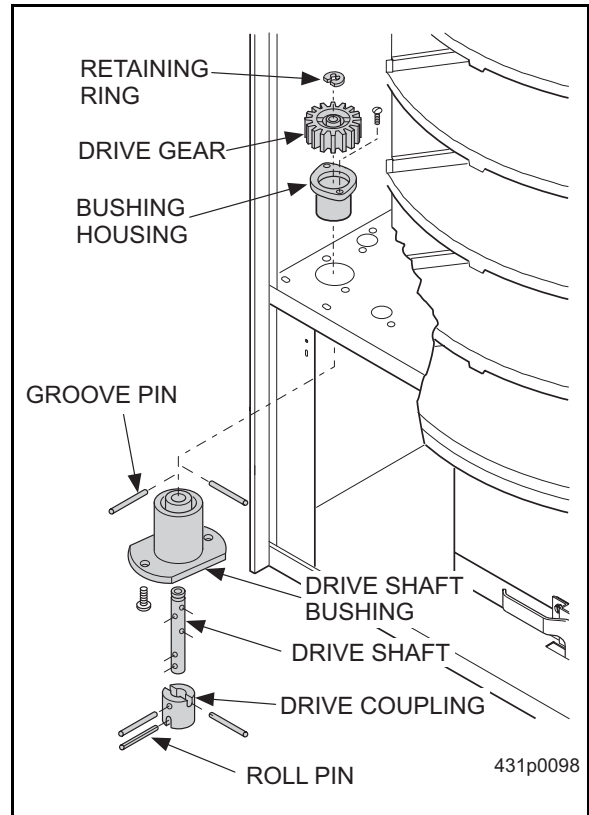

Figure 22
2. Remove the retaining ring from the top of the gear (figure 22).
3. Remove the two screws holding the bushing housing and the drive shaft bushing in place. Remove the drive shaft bushing (figure 22).